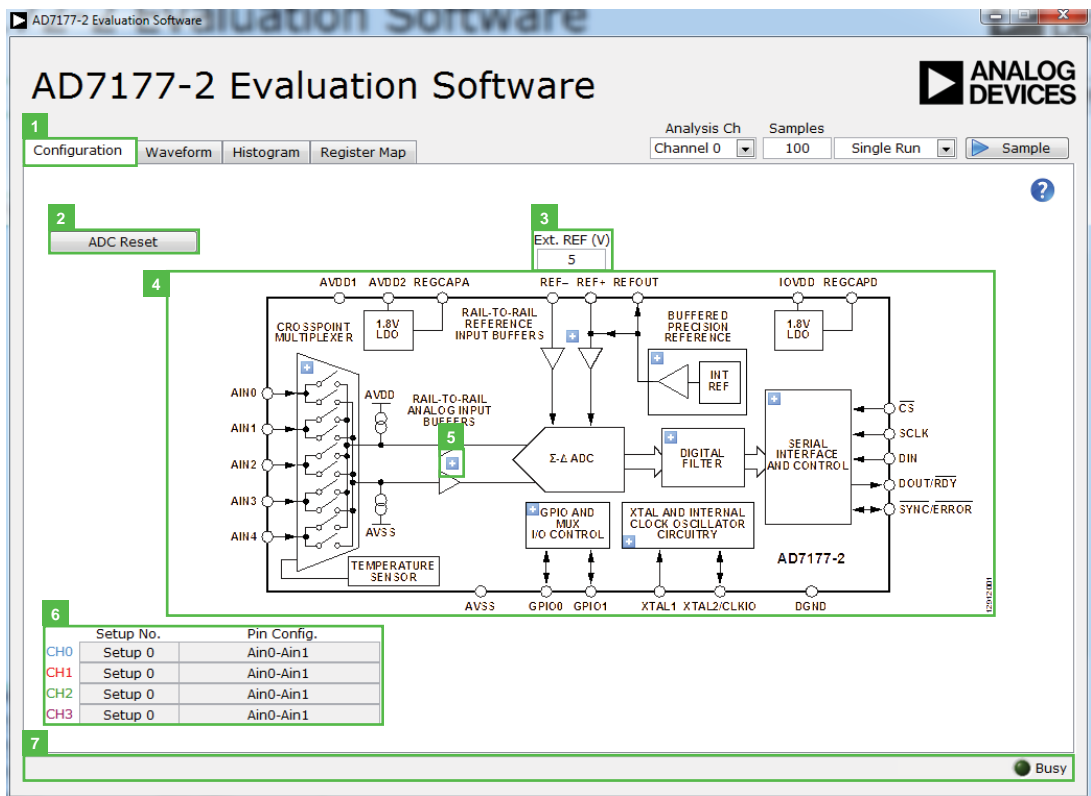

Figure 7. Configuration Tab of the AD7177-2 Evaluation Software
1. From the **Start** menu, click **Programs**, **Analog Devices**, then EVAL-AD7177-2SDZ. The main window of the evaluation software displays (see Figure 7).
The main window of the software displays the significant control buttons and analysis indicators of the AD7177-2 evaluation board software (see Figure 7). This window is divided into four tabs: **Configuration**, **Waveform**, **Histogram**, and **Register Map**.
See Figure 7 for the **Configuration** tab.
To exit the software, click the **Close** button at the top right corner of the **AD7177-2 Evaluation Software** window (see Figure 7).